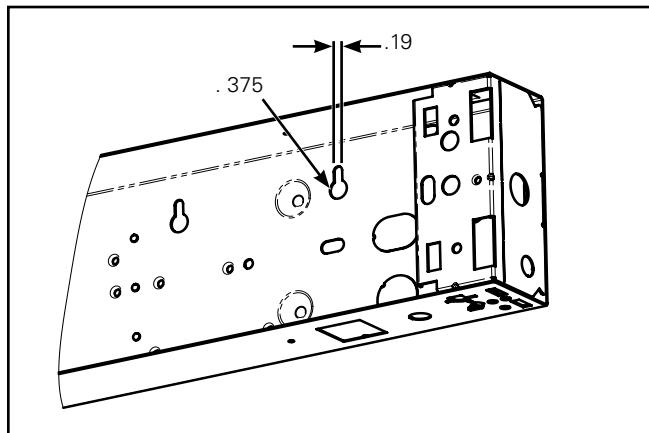

Figure 3.
- Orient the fixture such that the key-hole slots in the bottom surface of the channel are upright. (Holes to the bottom and slots pointing upward). (Figure 3)